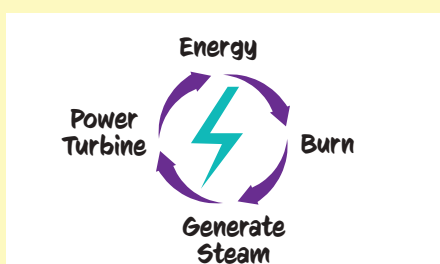

Figure 3
3. The recycling centre in Figure 3 shown below is used to process what type of solid waste into which end-product?